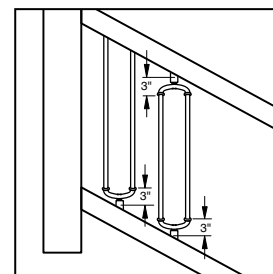

Figure 6
Step 7: Measure the space between the top and bottom rail. The Arched Duo Connector with Stair Adaptor will add 3" between the baluster and the rail. The balusters may need to be trimmed 3" when using one arched Duo Connector, or 6" when using two arched Duo Connectors. (Figure 6)